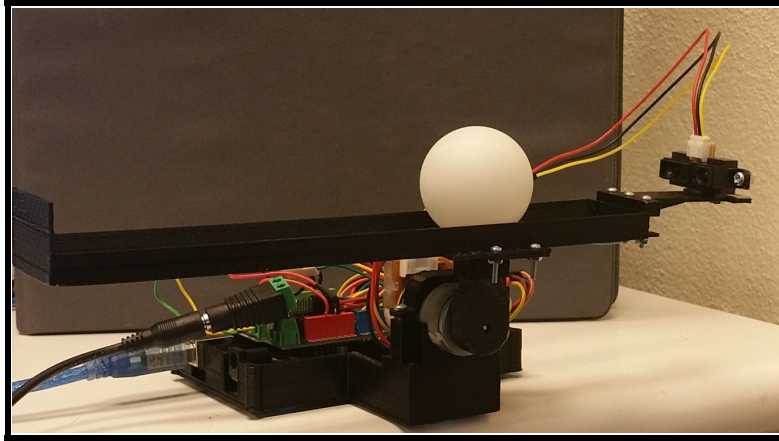

Figure 2.19: Ball and Beam
25. Place the ball on the beam above the motor attachment, as in Figure 2.19.
27. If you added sticky tack to make the beam balance, with the ball above the motor attachment, the final assembly should look like Figure 2.19.